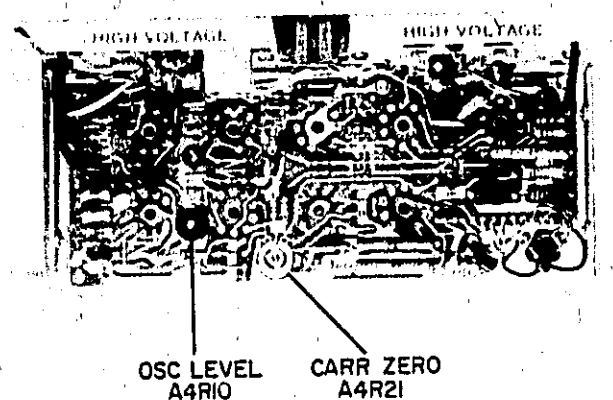

Figure 5-10. Oscillator-Amplifier Deck Adjustment Locations
f. Adjust oscillator level control potentiometer A4R10 on the oscillator-amplifier deck for a maximum current of 25 mA at frequency of maximum current. See Figure 5-10 for adjustment location. If this adjustment is made, check the following:
(1) Paragraph 5-42, Carrier Zero Adjustment
(2) Paragraph 5-44, Maximum Carrier and Modulation Zero Adjustment
(3) Paragraph 5-46, Modulation Meter Adjustment
f. Set CARR ZERO potentiometer A4R21 fully counterclockwise. See Figure 5-10 for adjustment location.
(1) Paragraph 5-44, Maximum Carrier and Modulation Zero Adjustment
(2) Paragraph 5-46, Modulation Meter Adjustment
f. Repeat step c. If PERCENT MODULATION meter does not indicate $50 \pm 5\%$, adjust MODULATION AMPLITUDE control until it does. Adjust CARR ZERO potentiometer A4R21 slightly until pattern on oscilloscope is as shown in Figure 5-6. See Figure 5-10 for adjustment location. Recheck maximum carrier adjustment (paragraph 5-44) and readjust potentiometer A1R60, if necessary.